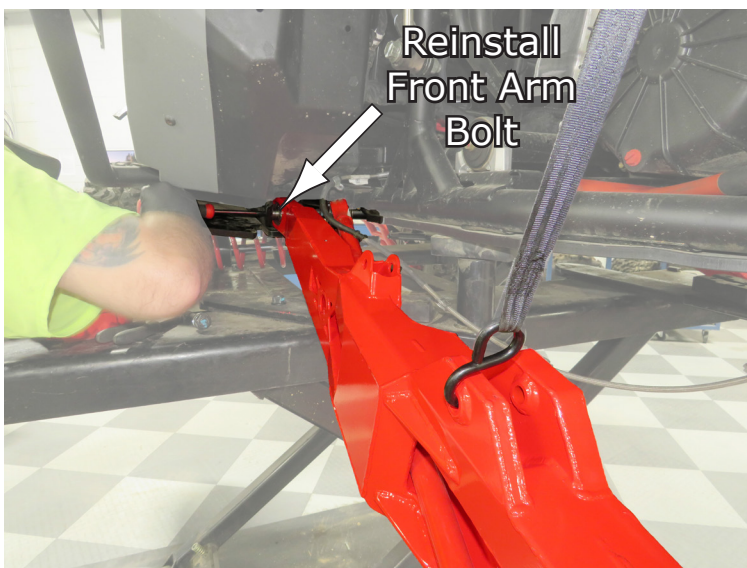

Fig.11
11. Next, install your new Arm into the front clevis to bolt in the Arm. Don't forget to reinstall the two bolts you removed from the skid plate previously to gain access after arm is installed. See Fig.11.